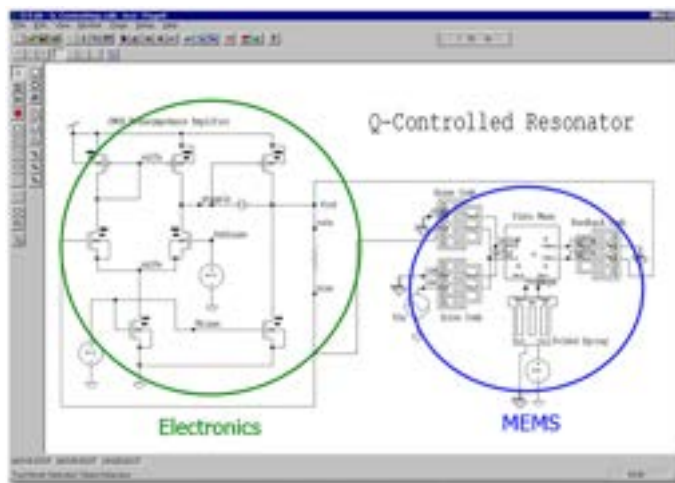

Figure 4: Electronics and MEMS on the same schematic.
- Schematics can contain IC and MEMS devices. IC devices are modeled using SPICE models and MEMS devices employ behavioral models that are directly modeled in the physical domains such as mechanical, electrostatic, fluidic, and magnetic (Figure 4). MEMS capture is supported by the MEMS Symbol Library within S-Edit.